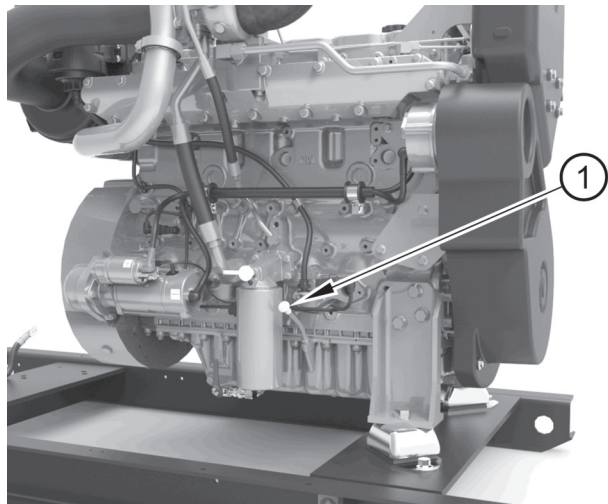

Figure 32
7. Fill the oil sump with the correct amount of new engine lubricating oil. Allow the oil enough time to pass to the sump. Remove the dipstick (figure 32 item 1) and ensure that the lubricating oil is to the full mark. Do not exceed the full mark on the dipstick. Ensure that the dipstick is fitted correctly in the dipstick tube.